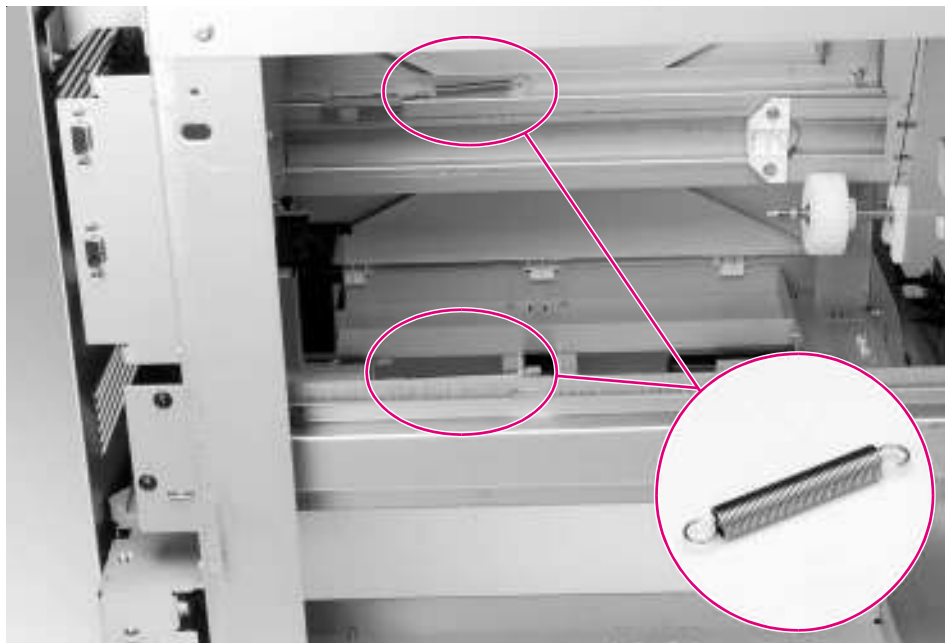

Figure 6-79 2000-sheet Input Tray Tension Springs
- 3 Inside the tray cavity, locate and remove the 2 springs on the tray runners: 1 spring on left runner (left side of the chassis) and 1 spring on the right runner (right side of the chassis) as shown in Figure 6-79.